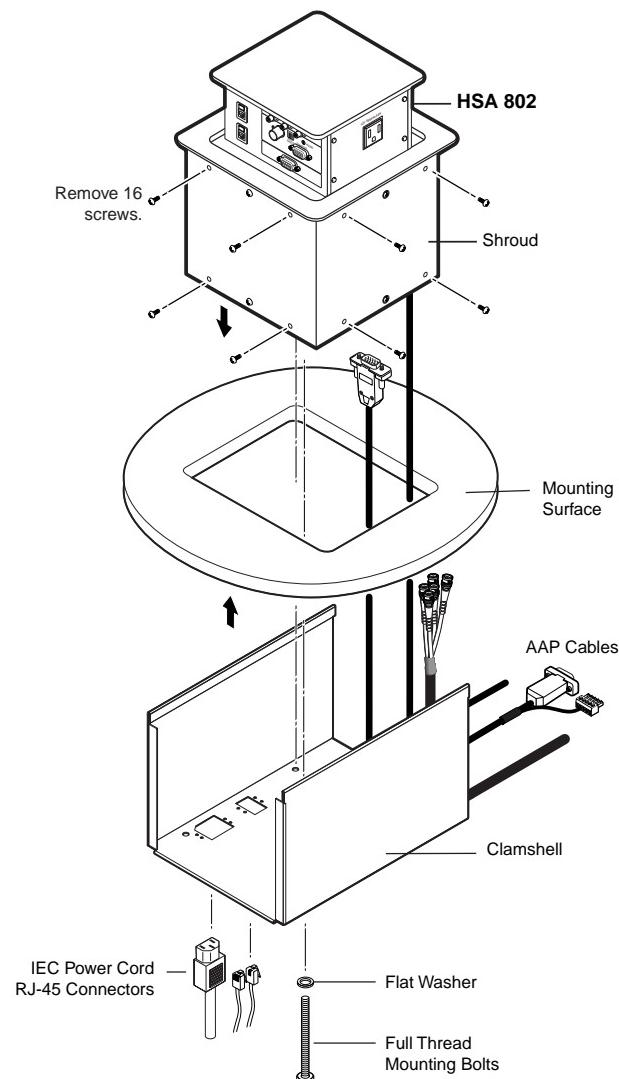

Figure 2-2 — Removing the HSA 802 from the table
- On the underside of the table, remove the two bolts that secure the clamshell to the surface mount enclosure (figure 2-2). Lift the enclosure out of the table. Ensure that the cables connected to the AAPs do not snag or pull on any protrusions.
NOTE *Figure 2-2 shows an HSA 802. For the purposes of this procedure, the HSA 800 and HSA 822 are physically similar.*